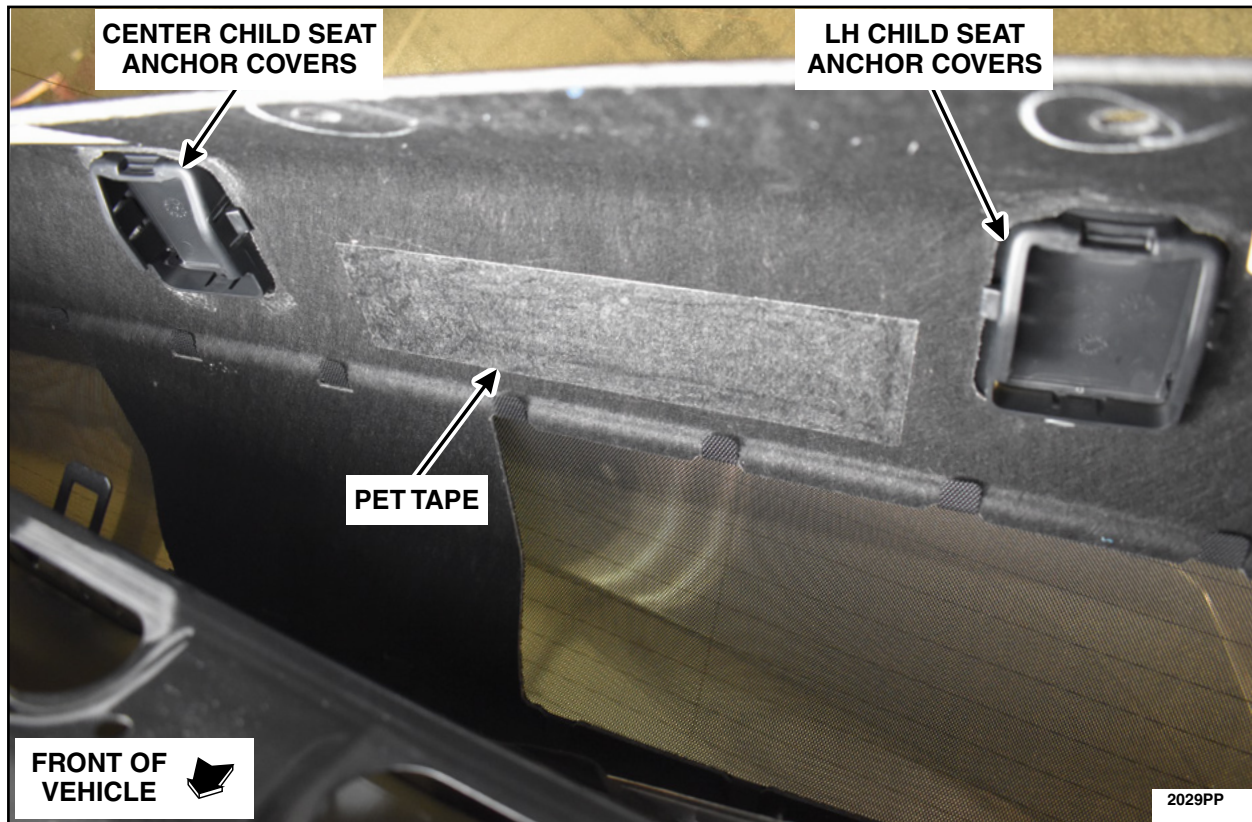

FIGURE 5
6. Install the supplied PET tape on the underside of the parcel shelf and centered between the center and LH child seat anchor covers. See Figure 5.